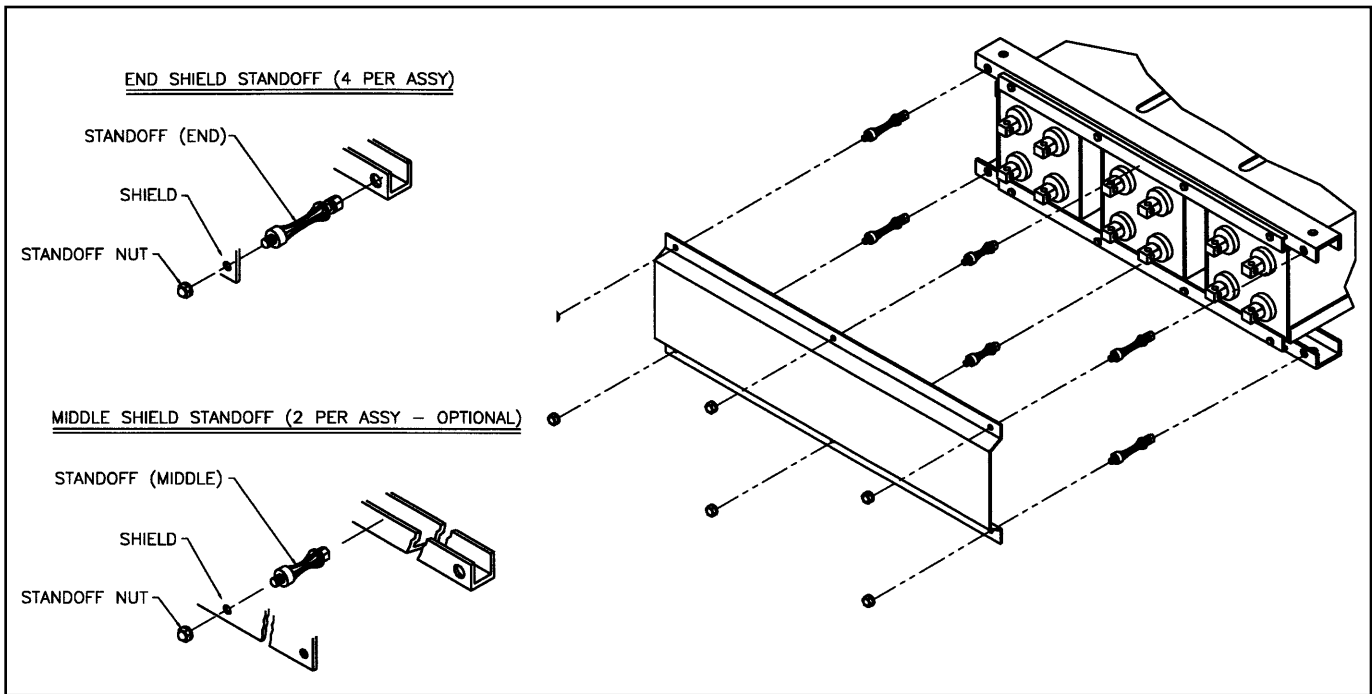

Fig. 20 (Module Front Shield Assembly)
1. Attach the standoff through the shield and fasten the nuts. (See Fig. 16, pg. 11 and Fig. 20, pg. 12.)
2. Insert the fully assembled shield standoffs through the holes in the battery module until the standoff locks in place. (See Fig. 17, pg. 11, and Fig. 20, pg. 12.)